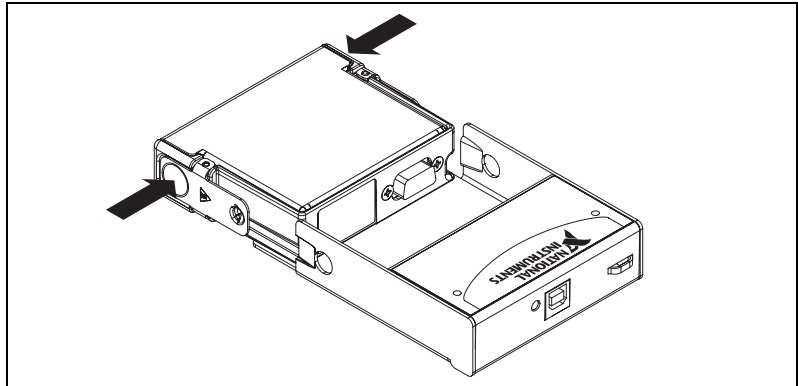

Figure 4. Module Installation
The NI USB-9219 module and NI USB-9162 carrier are packaged separately. Refer to Figure 4, while completing the following assembly steps:
3. Align the I/O module with the carrier, as shown in Figure 4.